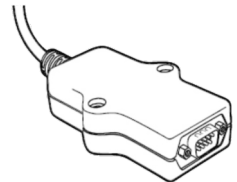

Figure 3
1. Plug in the Q-Logic™ Handheld Programmer (Previous Page) to the Q-Logic™ ED (Enhanced Display) or to the standalone Joystick if the SCIM (Specialty Control Input Module - Figure 3) is in use.
If using Q-Logic™ Specialty Control Input Module (SCIM Figure 3), you will need any type of mechanical switch to plug into the power port of the standalone joystick to power ON/OFF the chair and ensure the SCIM as master control. Q-Logic™ Programmer required.
1. Plug in the Q-Logic™ Handheld Programmer (Previous Page) to the Q-Logic™ ED (Enhanced Display) or to the standalone joystick if SCIM (Specialty Control Input Module - Figure 3) is in use.